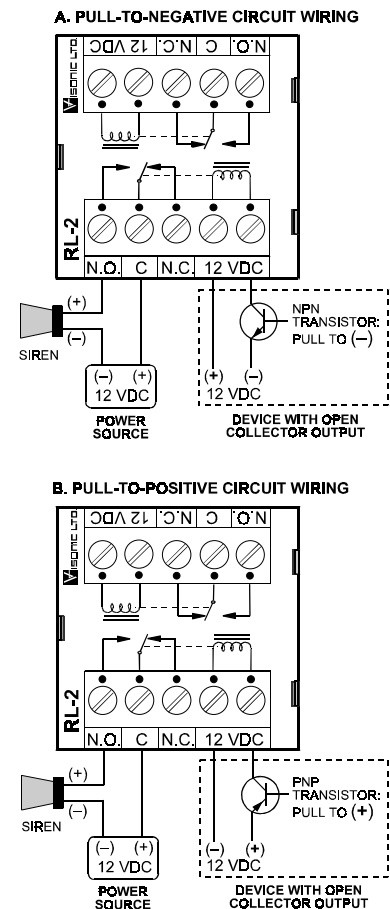

Figure 2. Typical Single-Relay Circuit Wiring
A. "Pull-to [-]" (see A, Fig. 2)
B. "Pull-to [+]" (see B, Fig. 2)
C. Example: Using the Relay to Operate a Siren (Fig. 2)